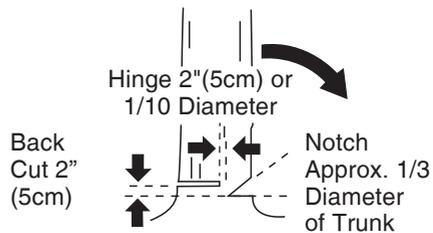

Fig. 18
- Make the back cut level and horizontal, at a minimum of 5 cm above the horizontal cut of the notch (Fig. 18).